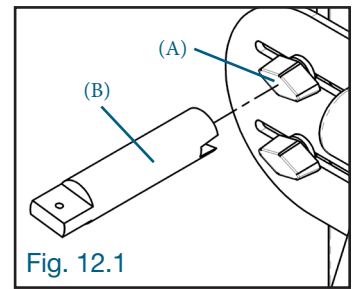

Fig. 12.1
12.1 ADJUSTMENT PROCEDURES (Fig. 12.1)